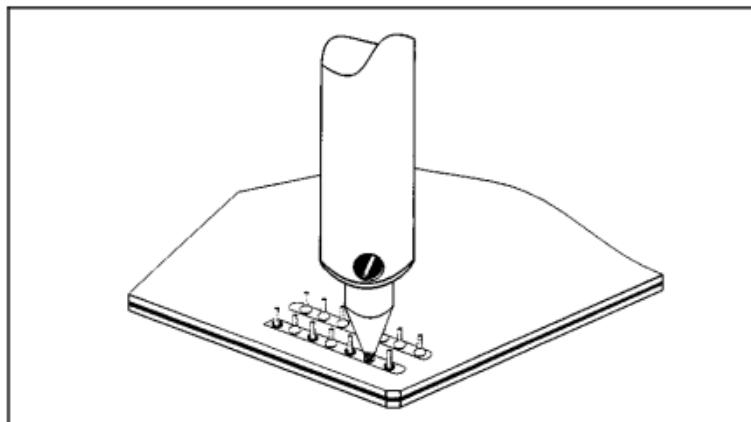

Figure 3 Melt Solder
- (g) Confirm complete solder melt of contacted lead. (See Figure 3.)